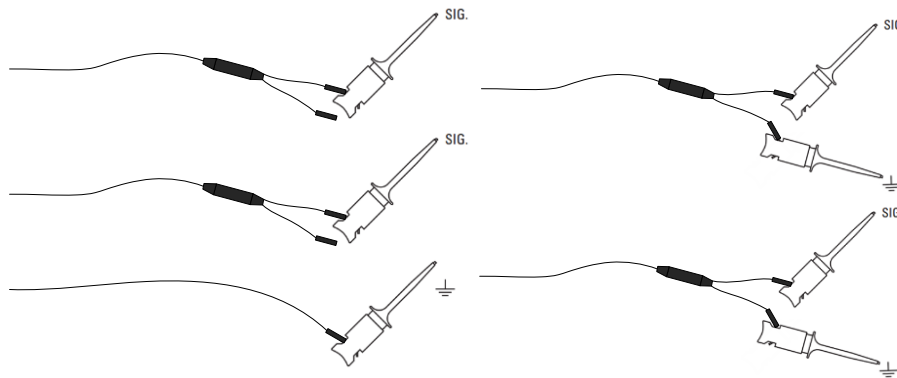

Figure 2-4
- 4) Based on the measurement requirements, connect the channels to the signals to be measured. For low-frequency signals ($<5\text{MHz}$), you can connect the signal under test and a common ground signal (Figure 2-4 left). For high-frequency signals, it is recommended to individually ground each channel to achieve optimal signal integrity (Figure 2-4 right).